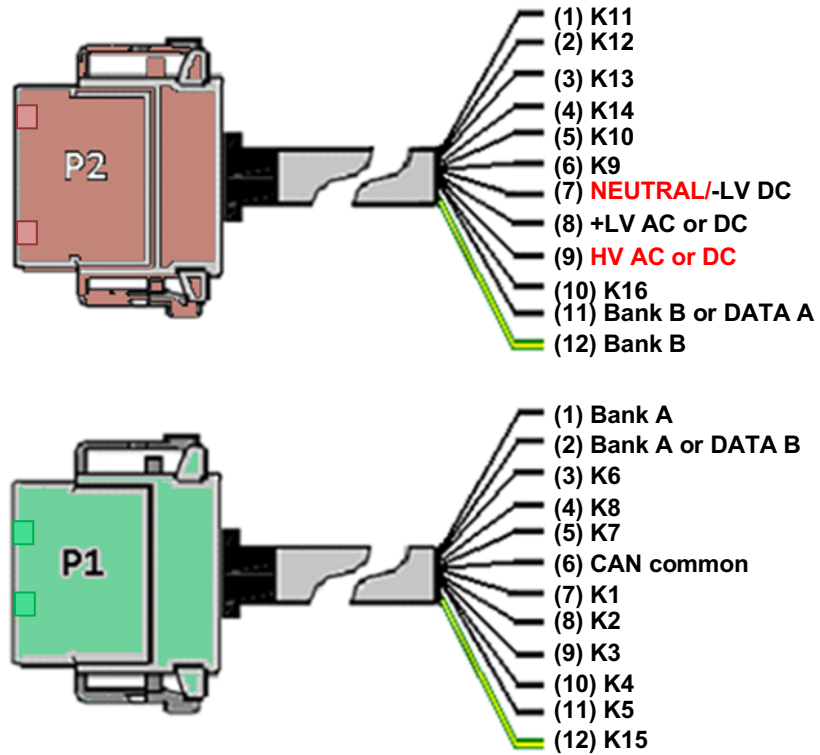

Figure 4. P1 and P2 Cable Wiring Assignments
- Make sure the wiring harness cables (Figure 4) are on hand.